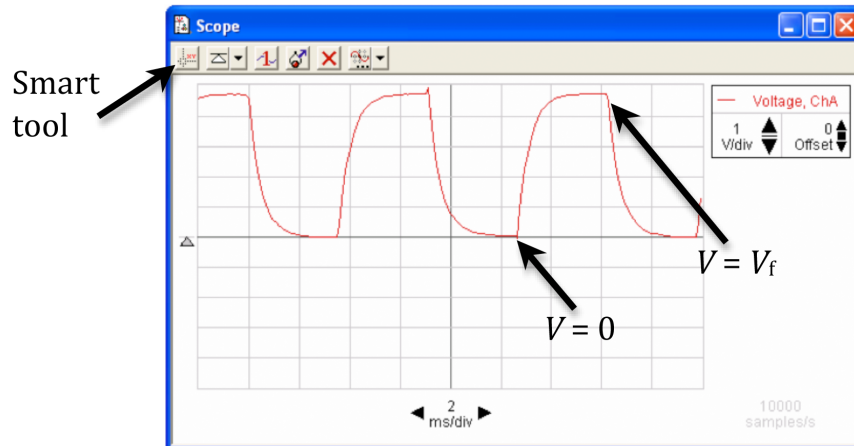

Figure 10: A sample signal with the initial and final voltages indicated
If necessary, adjust the sweep and gain of the oscilloscope to produce a signal trace like that shown in Fig. 10. This will allow you to observe how the voltage on the resistor varies as function of time. Click **STOP** after a few seconds.
- 10 Activate the **SMART TOOL** button in the upper left of the scope window, as shown in Fig. 10.